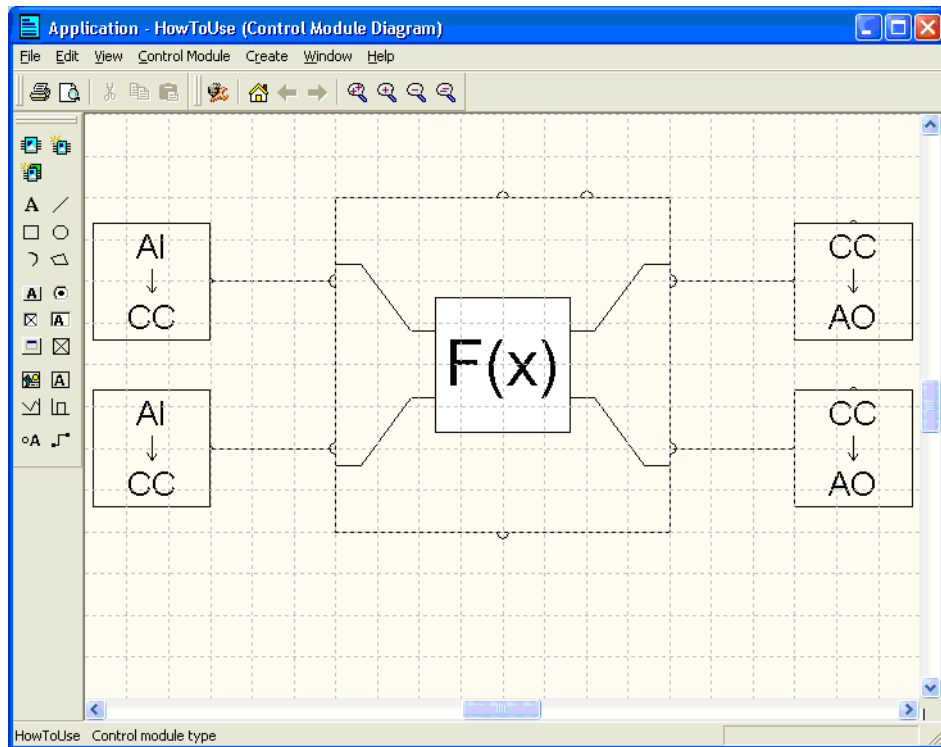

Figure 47. Connection of the Mimo22CC object
8. Connect the control modules correctly. Figure 47 shows the completed connection for the `Mimo22CC` object.